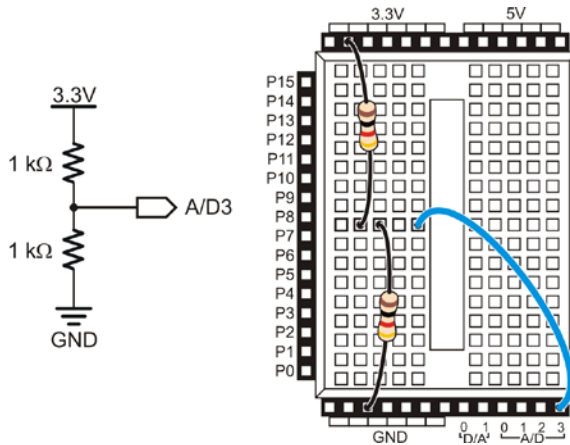

Figure 6-6
- ❑ Connect the voltage divider shown in Figure 6-6.